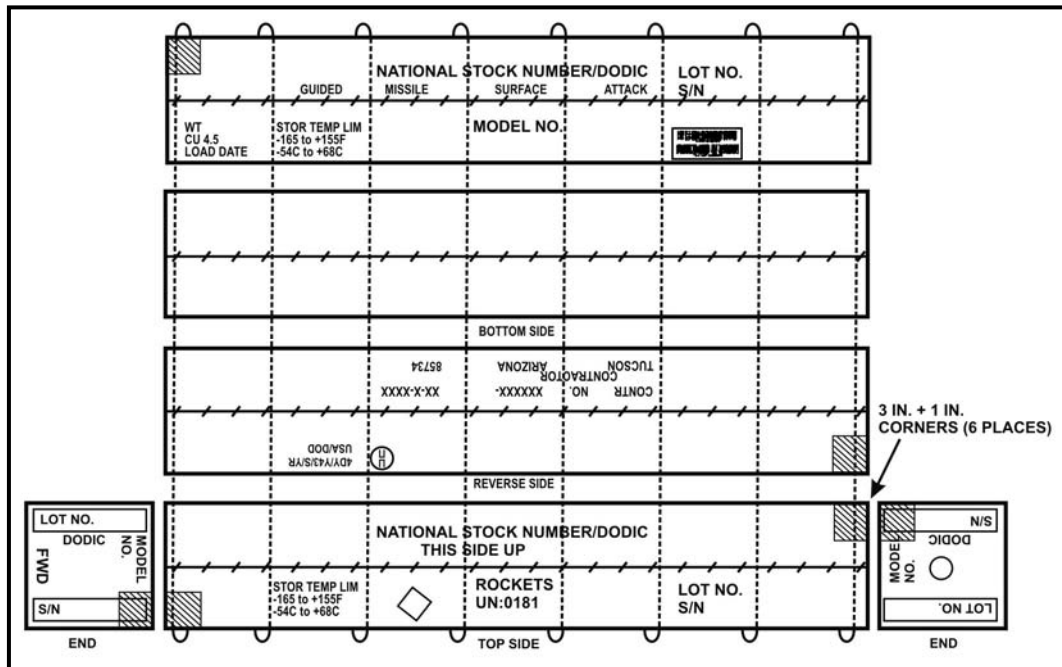

Figure 1-30. Missile wooden overpack markings.
d. Check the marking (Figure 1-30) on the wooden overpack shipping container to ensure the ammunition is identified correctly. (See Tables 1-2 [page 1-20], 1-3 [pages 1-21 and 1-22], and 1-4 [page 1-31] for missile identification data.)